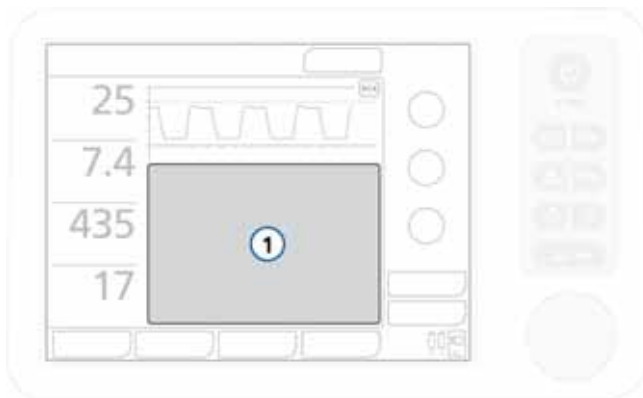

Figure 7-4. Display the graphics window (1)
1. Touch anywhere in the graphic area of the display to open the graphics window. See **(1)** in Figure 7-4.